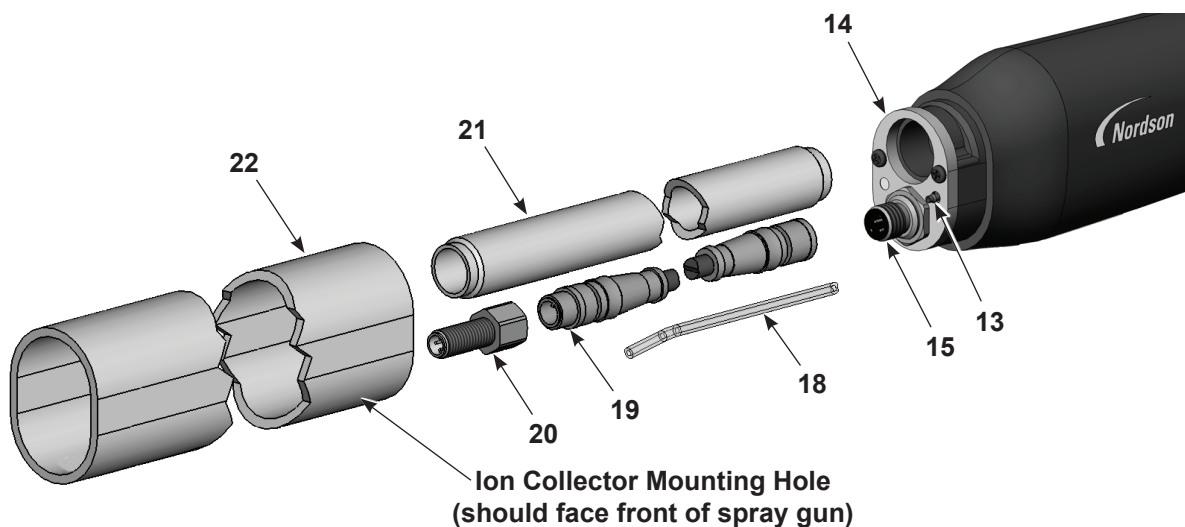
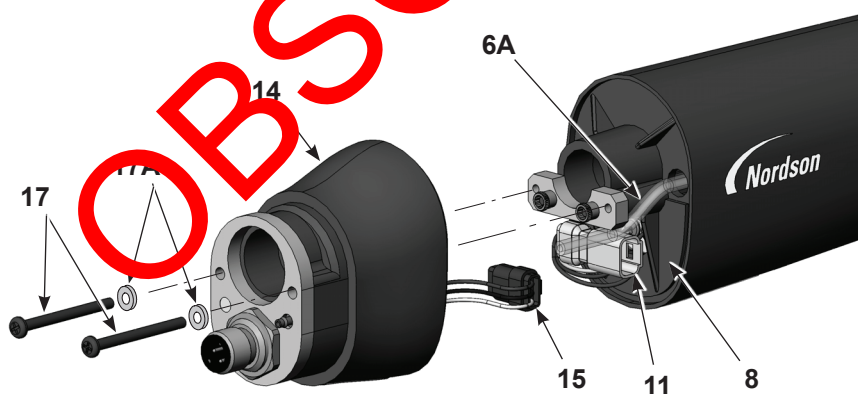
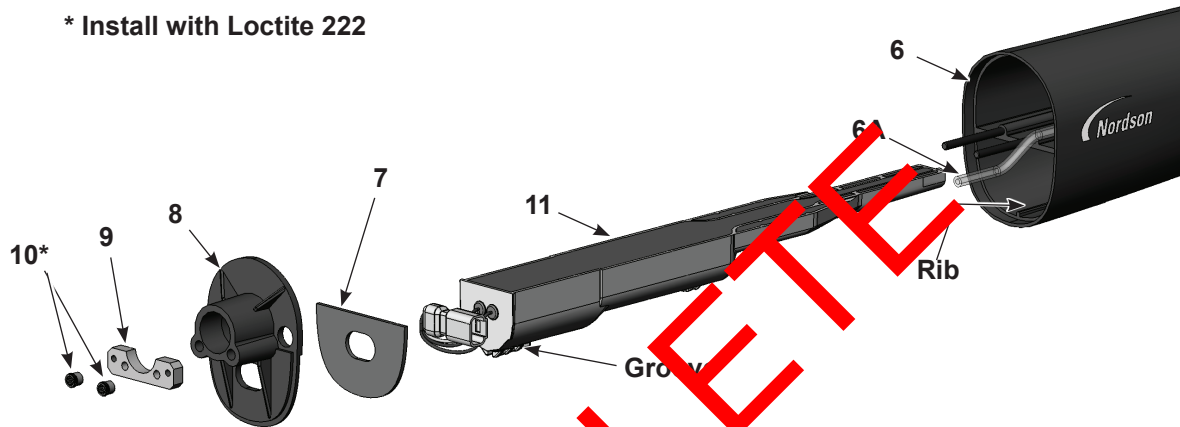

Figure 7-3 Tube-Mount Gun Disassembly 2 of 5
Figure 7-4 Tube-Mount Spray Gun Disassembly 3 of 5
Figure 7-5 Tube-Mount Spray Gun Disassembly 4 of 5
7. See Figure 7-3. Pull the mounting tube (22) off the rear body assembly (14) and over the clamping tube (21).
9. Disconnect the extension cable (19) from the receptacle harness (15).
10. Disconnect the clear 4-mm air tubing (18) from the barbed fitting (13).
11. If you are replacing the extension cable, remove the cable receptacle (20). If not, you can leave them connected.
12. See Figure 7-4. Remove the two socket-head screws (17) and lock washers (17A) from the rear spray gun body (14).
13. Carefully pull the rear spray gun body far enough off the bulkhead (8) to disconnect the power supply harness (11) from the receptacle harness (15), and the filter assembly tubing (6A) from the barbed fitting inside the rear body.
14. See Figure 7-5. With a 1/8-in. hex key, remove the two Allen nuts (10) and screw plate (9) from the bulkhead (8). Then remove the bulkhead from the spray gun body (6), feeding the power supply harness through the bulkhead.
15. Slide the power supply (11) out of the spray gun body.
17. The gasket (7) is attached to the bulkhead with a pressure-sensitive adhesive. If the gasket is damaged, replace it with a new one.
- See Figure 7-5. Install the power supply (11) into the spray gun body (6), making sure the spray gun body rib fits into the groove on the power supply. Seat the power supply firmly into the spray gun body.
- Feed the power supply harness through the bulkhead (8), then install the bulkhead and screw plate (9) over the spray gun body studs. Apply Loctite 222 thread-locking adhesive to the Allen nuts (10) and thread them onto the studs. Torque the nuts to 0.45 N•m (64 in. pounds) with a 1/8-in. hex key.
- See Figure 7-4. Connect the receptacle harness (15) to the power supply harness (11). Turn the harness connectors (11, 15) into the rear body assembly in the positions shown.
- Connect the filter assembly tubing (6A) to the barbed fitting on the inside of the rear body. Feed any extra clear air tubing into the spray gun body, then install the rear body onto the bulkhead with the screws (17) and lock washers (17A).
- See Figure 7-3. Screw the clamping tube (21) into the rear body (14).
- Connect the extension cable (19) to the receptacle harness in the rear body assembly.
- Connect the clear 4-mm tubing (18) to the barbed fitting on the rear body assembly.
- Orient the mounting tube (22) with the ion collector hole facing towards the front of the spray gun.
9. See Figure 7-3. Connect the extension cable (19) to the receptacle (20) in the end cap (23).
11. Install the end cap on the mounting tube, feeding the clamping tube (21) and clear 4-mm tubing (18) through the end cap.
12. Secure the cable receptacle (20) to the end cap with the lock washer and nut.
13. Thread the clamping tube nut (24) onto the clamping tube and tighten securely.
14. Install the union (25) on the clear 4-mm tubing.